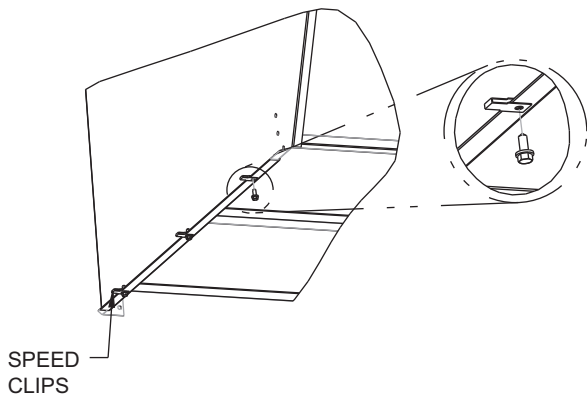

Fig. 37 — Bottom Filters Installed with Flange Pointing Down
11. Attach speed clips (provided) to hood side panels. Engagement section of clip faces up and towards the outside of the hood side panels. Attach mounting angles to hood with gasketed screws provided. See Fig. 37.